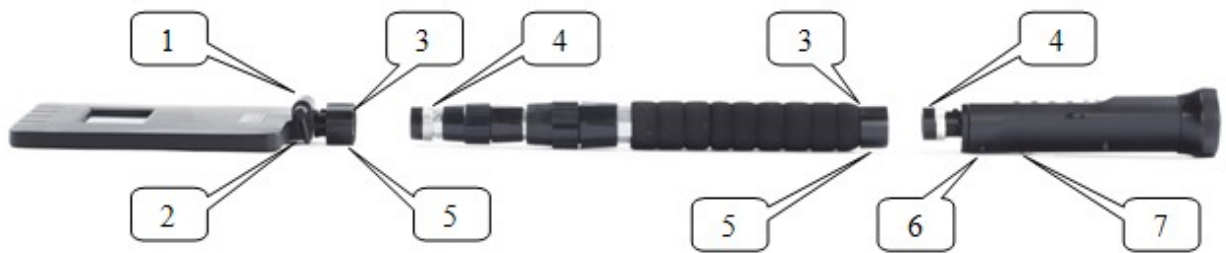

Figure 4, where
**4.4.** Knuckle joint of the replaceable antenna module with detachable connection (Figure 4) is used to fix the position of the antenna, for easy inspection and searching.
**4.5.** Detachable connections of replaceable antenna modules with remote control handle, and a removable telescopic rod allows the operator to easily turn the detector from the inspection device to a search one and back. Figure 4 shows the construction of the detachable junction of the detector's elements.
**4.9.** Headphones (1-16) are connected to the connector (7-4) on the remote control, the location of which is shown in Figure 4.